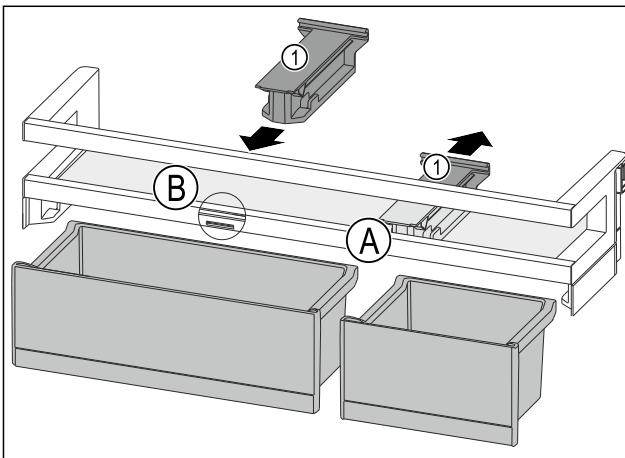

Fig. 85
- ▶ Pull off the retaining part *Fig. 85 (1)* in position *Fig. 85 (A)* downward.
- ▶ Insert the retaining part *Fig. 85 (1)* in position *Fig. 85 (B)*.